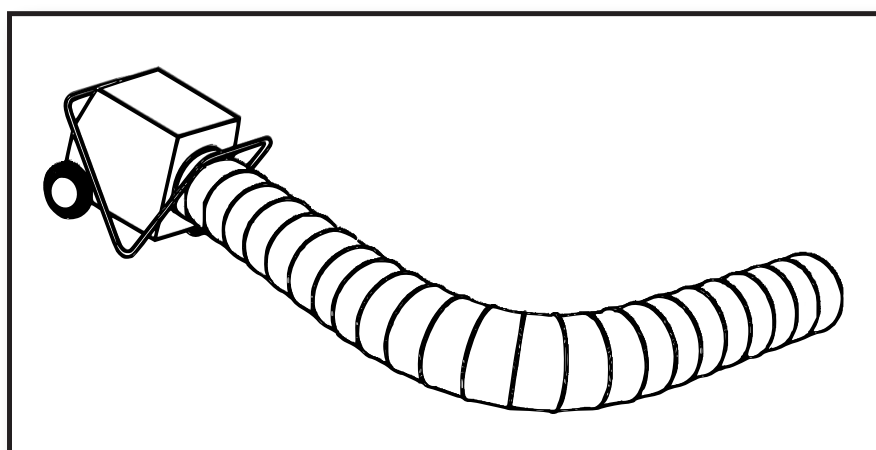

Fig. 7
**▶▶ 6. PUNA ME TELIN E SHPËRNDARJES SE AJRIT TË NXEHTË (FIG. 7)**